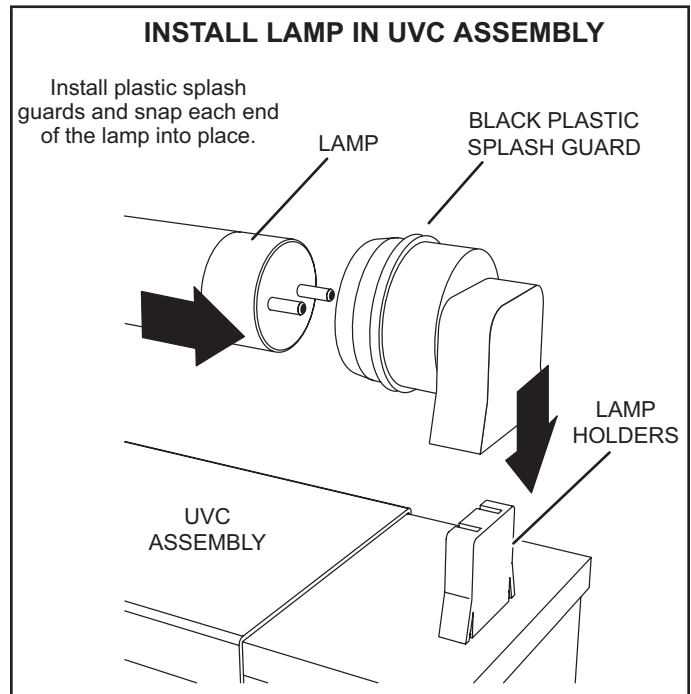

FIGURE 36
- 5 - Remove and retain the (3) mounting screws securing the UVC assembly. Carefully remove the complete UVC assembly out through the blower access door. See FIGURE 36.